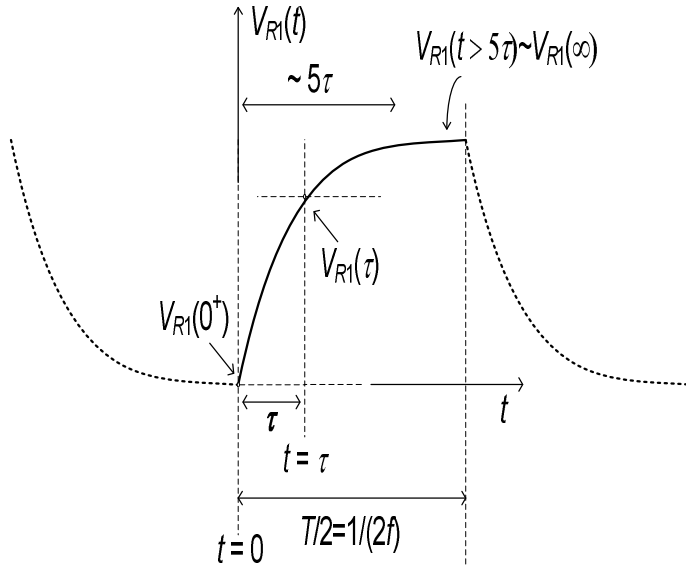

Figure 2. The resistor voltage $V_{R1}(t)$ versus time t .
- Measure the approximate value of the time constant τ of the circuit from the $V_{R1}(t)$ waveform (call this time constant τ_{measured} or τ_m). Note that over each $T/2$ time interval during which the source voltage $V_S(t)$ is either -2.5 V or 2.5 V , assuming $t=0$ to be the starting time of each one of these $T/2$ intervals, the resistor voltage $V_{R1}(t)$ varies with respect to time as $V_{R1}(t) = V_{R1}(0^+)e^{-t/\tau_m} + V_{R1}(\infty)(1 - e^{-t/\tau_m})$ where $V_{R1}(0^+)$ is its initial value and $V_{R1}(\infty)$ is its final value. So, for example, the resistor voltage at $t = \tau_m$ is approximately given by $V_{R1}(t = \tau_m) \cong 0.368V_{R1}(0^+) + 0.632V_{R1}(\infty)$. Refer to the middle portion of the $V_{R1}(t)$ sketch shown in Fig. 2 for which $V_{R1}(0^+) = -2.5\text{ V}$ initial and $V_{R1}(\infty) = 2.5\text{ V}$ final voltage values are indicated. Substituting these values yield $V_{R1}(\tau_m) \approx 660\text{ mV}$. Using this portion of the $V_{R1}(t)$ waveform seen on the oscilloscope display, measure and record the approximate value of the time constant τ_m using the $V_{R1}(\tau_m)$ voltage point on the $V_{R1}(t)$ waveform.